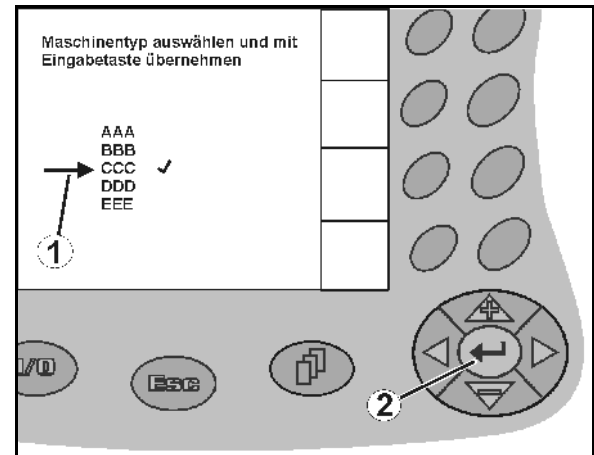

Fig. 13
1.  /  Position the selection arrow (Fig. 13/1).
2.  Apply the selection (Fig. 13/2).